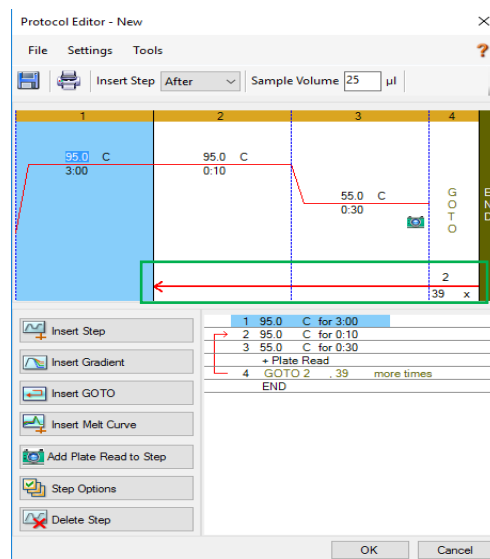

Figure 3. Protocol Editor Menu
- 4.7.6.1. In figure 3 GOTO is to Step 2 with 39 repeated cycles, 40 cycles total.